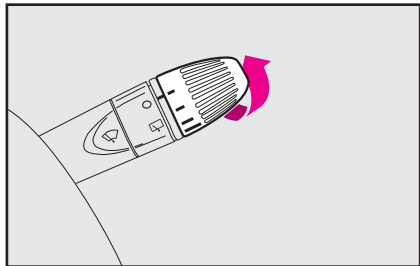

fig. 85
- 1 - flick wipe; in some versions, four selections are possible (from slow to fast **fig. 85**);